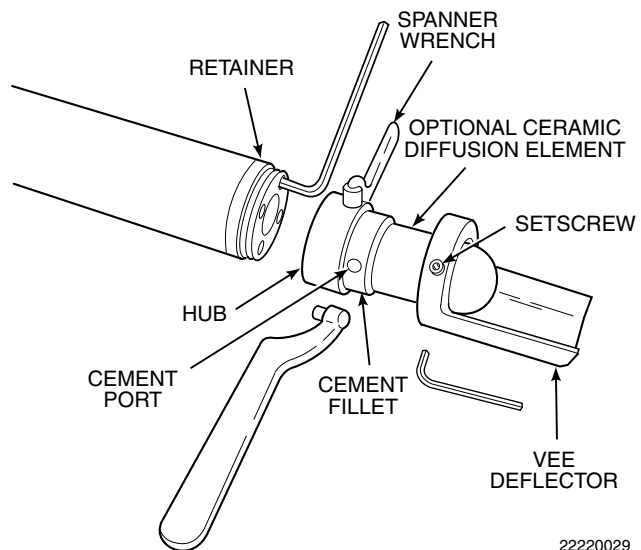

Figure 6-10. Ceramic Diffusion Element Replacement
- c. If equipped with the optional ceramic diffusion assembly, remove and discard the setscrews and remove the vee deflector (Figure 6-10). Use spanner wrenches from the probe disassembly kit (Table 8-1), to turn the hub free from the retainer. Inspect the diffusion element. If damaged, replace the element.
2. Loosen setscrews, Figure 6-10, using hex wrench from Probe Disassembly Kit, Table 8-1, and remove vee deflector. Inspect setscrews. If damaged, replace with stainless setscrews coated with anti-seize compound.